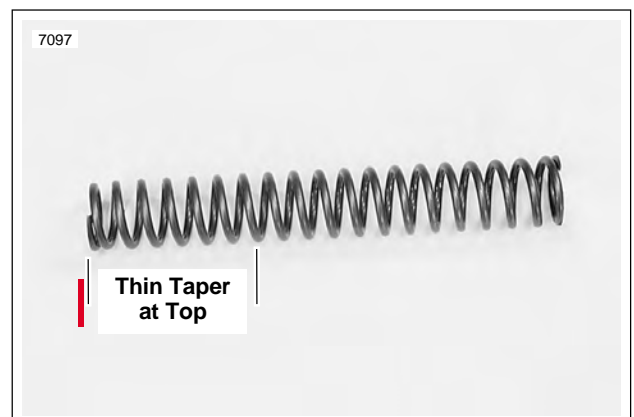

Figure 2-57. Spring Installation
16. See Figure 2-57. Install the spring, with the taper side at top, and the spring collar and spring joint.